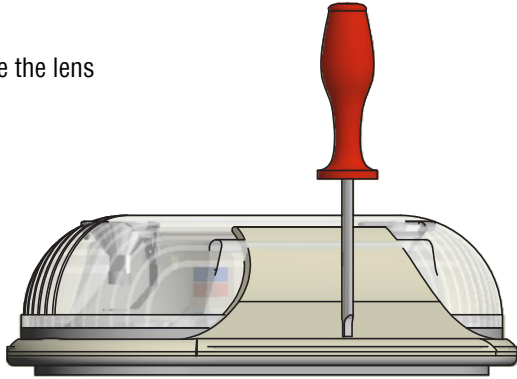

Figure 3
3. Mount backplate to mounting surface using appropriate fasteners and washers (supplied by others). Cover fasteners with provided waterproof caps (figure 3).